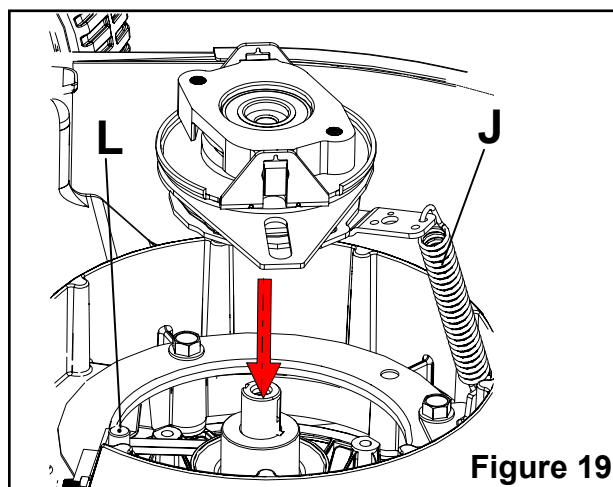

Figure 19
2. Wear thick gloves. Set the clutch over the end of the engine crankshaft. Line up the clutch key with the engine key way and slide the clutch assembly onto the shaft. **Figure 19**
3. Rotate the clutch assembly against the spring until the anti-rotation arm will fit over the anti-rotation pin **L**. Push the clutch assembly on the engine crankshaft against the transmission drive pulley. **Figure 19**